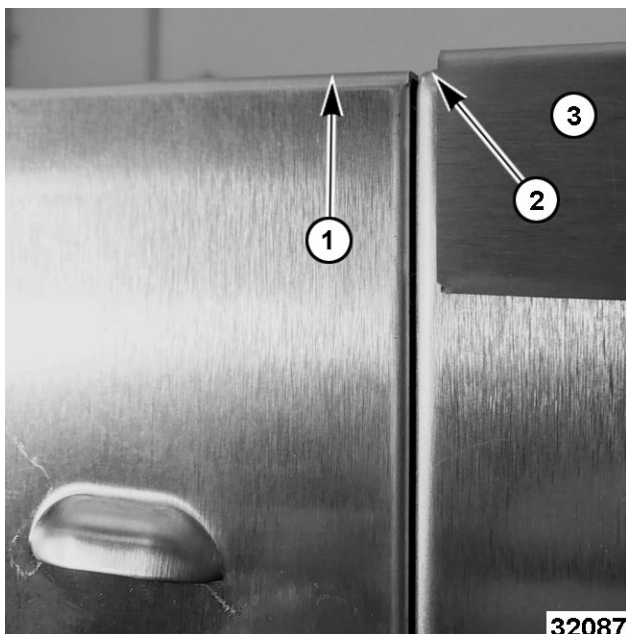

Fig. 107
1. Visually check to see if control panel (1, Fig. 107) is flush with the frame (2, Fig. 107) of the oven along the top (Fig. 106) and side. **Not** with the top trim (3, Fig. 107).